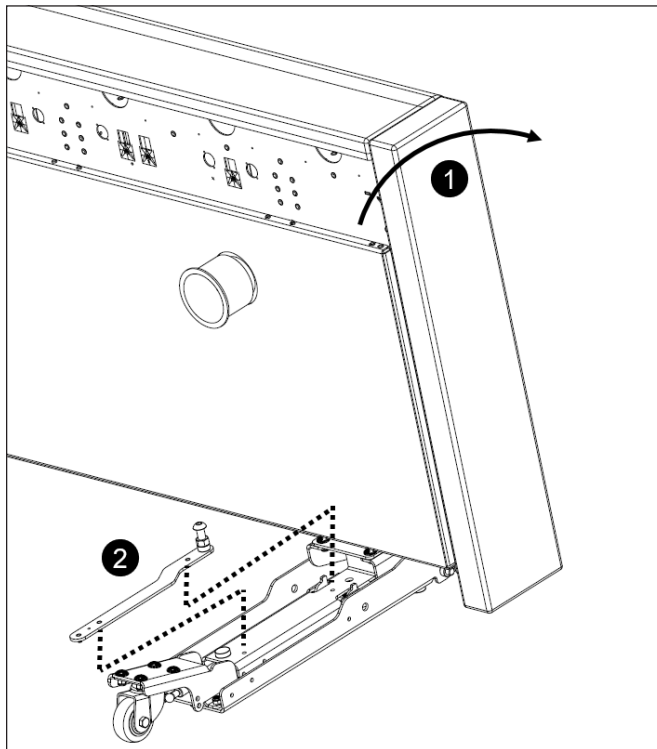

Figure 22: Caster Base Tool Location for Setting Face Angle
6. Carefully tilt the display face forward enough to insert the studs of the Caster Base Tool with the mating holes on the top of each caster base pivot arm. Refer to **Figure 22**.